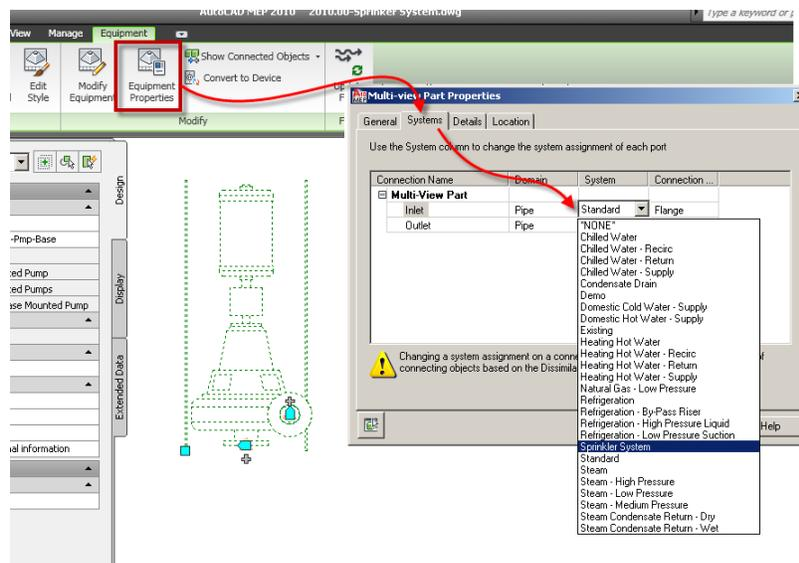

Figure 6.36
- In the “Multi-view Part Properties” dialog, click the Systems tab, set the Inlet and Outlet Systems to **Sprinkler System**, and then click OK (see Figure 6.36).